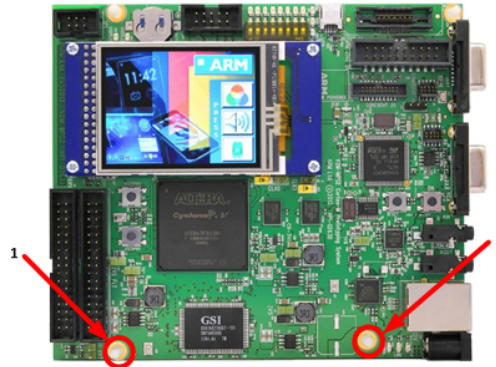

Figure 3-1 Plastic spacers removal
1. Remove the two plastic spacers, supplied with MPS2 Motherboard, from the mounting holes (Figure 3-1).